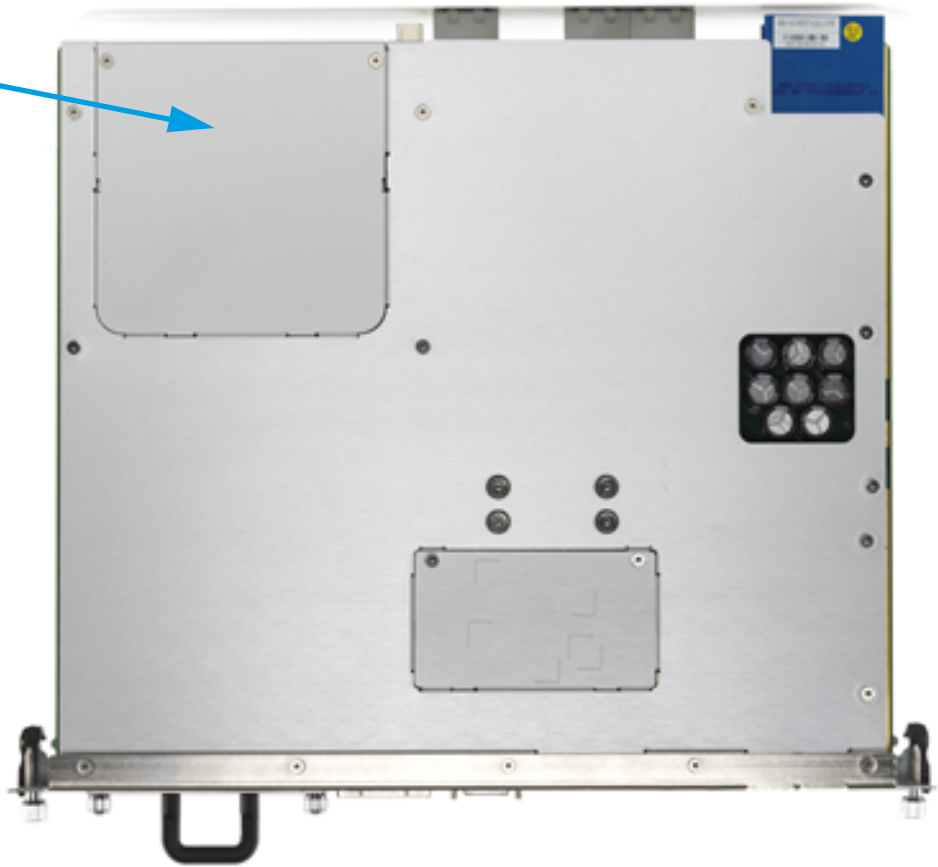

Figure 5 NVMe SSD Cover. Use a T9 Torx Screwdriver to Remove and Replace Screws
- 3 Remove the NVMe SSD cover. See Figure 5 on page 57. If you have installed an NVMe SSD, you will need to remove it. See “Removing the NVMe Drive” on page 56.
- 4 Locate and remove the CMOS battery. Press the battery release latch (1). The battery should pop out (2).